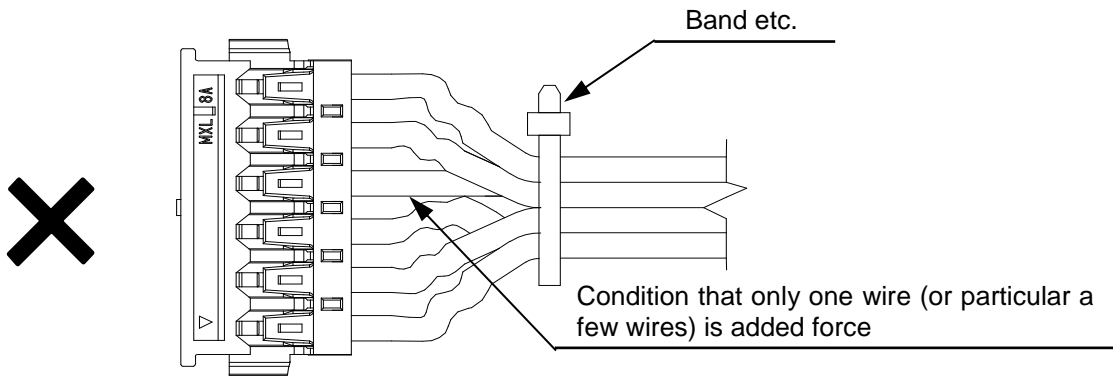

Fig.7 Condition that harness is banding improperly
- ② Concerning harness, please consider that only one wire (or particular a few wires) is not added force. (Fig.7)